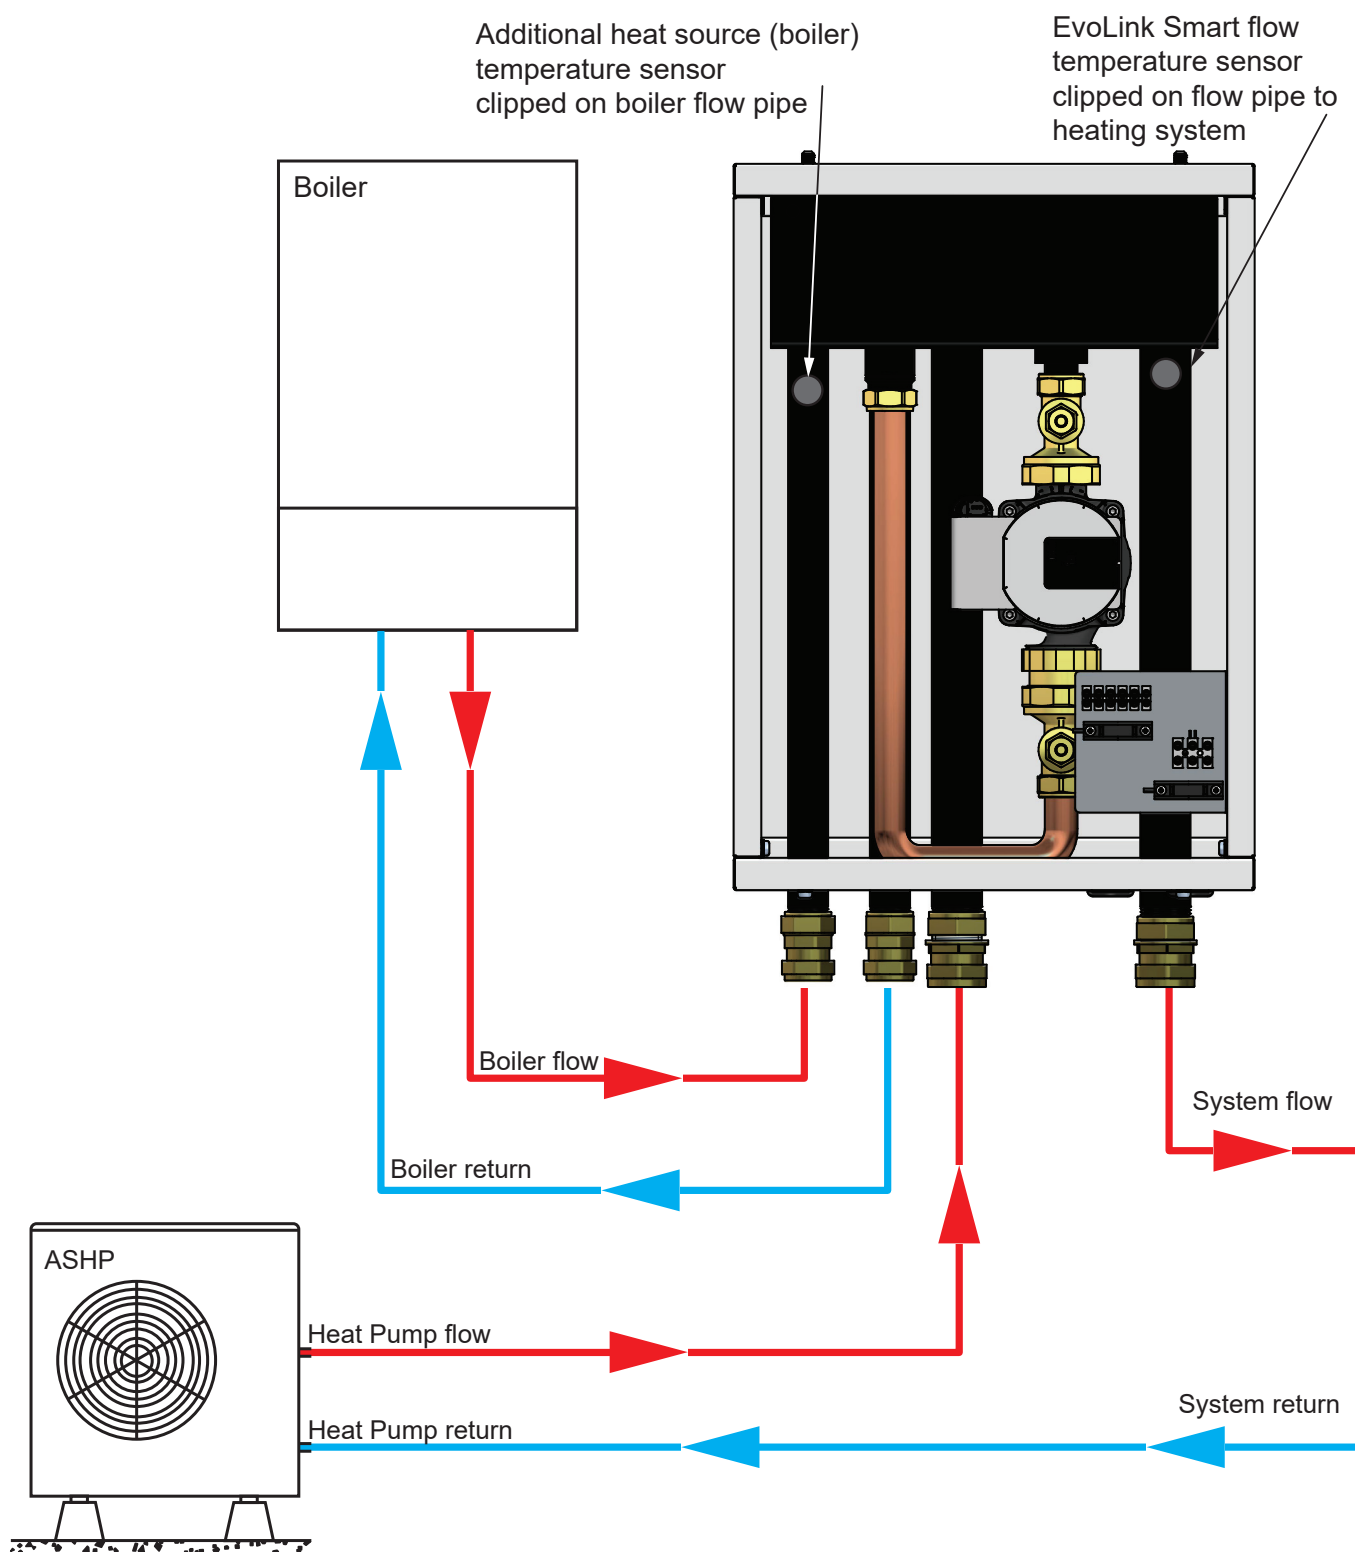

Figure 6-1: EvoLink System Connections
- The output flow temperature measured on the EvoLink system flow pipe (refer to Figure 6-1) is determined by the highest required flow temperature from the configured system. This will include weather compensated or set point temperature and any configured temperature corrections.
- When the boiler flow temperature on the AHS (boiler) flow pipe (left hand pipe, refer to Figures 6-1) is above the EvoLink flow sensor temperature by the amount '**AHS-MHS temp difference to start**', the PWM mixing pump will start, pulling the boiler flow into the right hand section of the header and mixing it with the MHS (heat pump) flow to achieve the required weather compensated flow temperature.
- When the boiler flow temperature on the boiler flow pipe (left hand pipe, refer to Figures 6-1) is above the EvoLink flow sensor temperature by the configured amount '**AHS-MHS temp difference to start**', the PWM mixing pump will start, pulling the boiler flow into the right hand section of the header and mixing it with the heat pump flow to achieve the required target flow temperature.